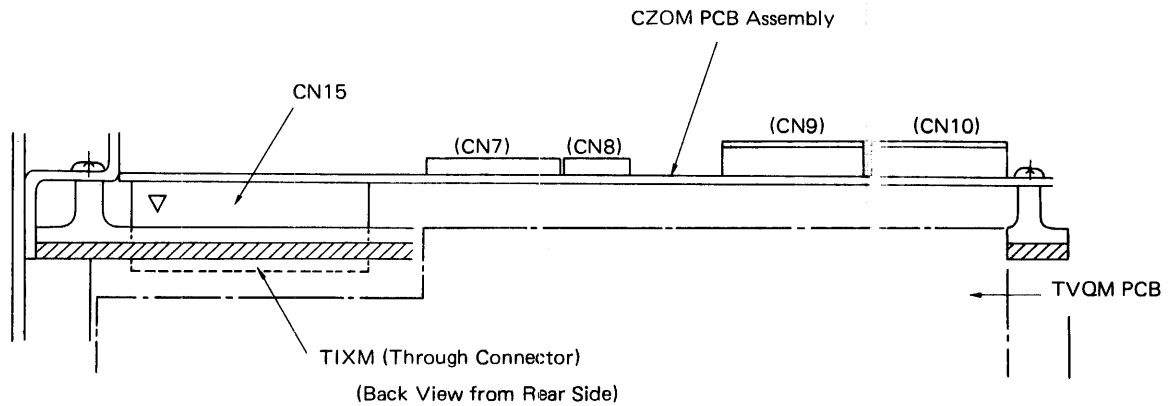

Figure 6-5-4 TIXM Connection
(1) Removal
- (A) Loosen screws "B".
- (B) Raise the KGFM PCB Assy. by lifting up the upper side-frame.
- (C) Disconnect wiring (CN5, CN6, CN7, CN8, CN9, and CN10).
- (D) Remove six screws and lift out the CZOM/KGKM PCB Assembly. Be careful not to damage CN15 on the TIXM (Through Connector). The TIXM is connected to the CZOM/KGKM PCB assembly at the back of the board. Refer to Figure 6-5-4. CN15 will be disconnected by lifting the CZOM/KGKM PCB assembly.